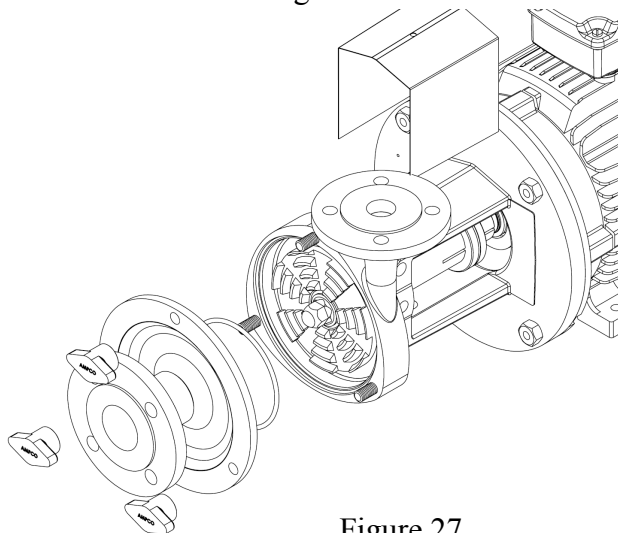

Figure 27
10. Replace cover gasket, cover, wing nuts, and shaft guard, figure 27. When replacing the cover, depending on the style of connection, the cover may only be installed correctly with only one orientation. Note the orientation of flange bolt hole patterns before installing the cover. Make sure the wing nuts are tight and turn the impeller slowly with a $15/16$ " socket, extension and ratchet to check if impeller turns freely. If the impeller does not turn freely do not force it to turn and absolutely do not run the pump. Reset the impeller clearance.